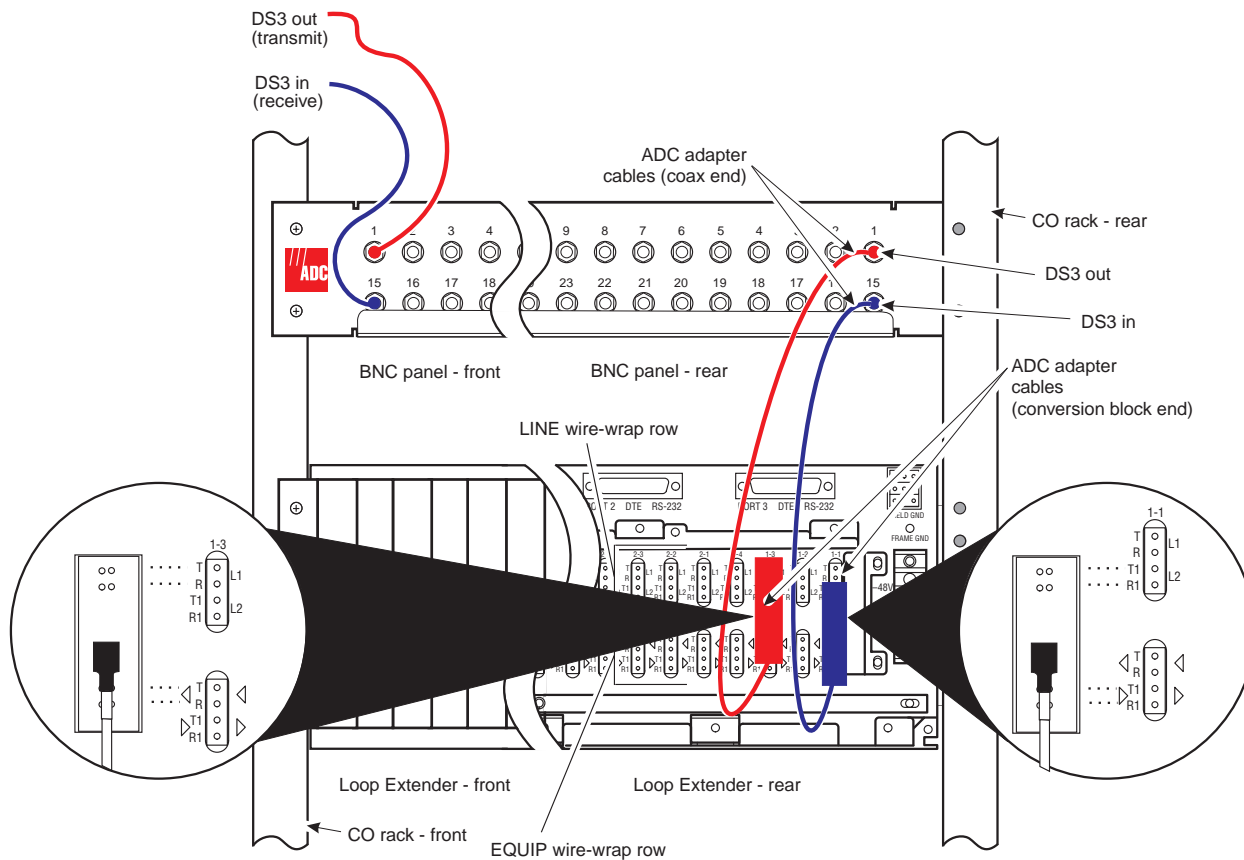

Figure 4. Mounting the BNC Panel and Connecting ADC Adapter Cables (LEC Shown)
- 3 On the front of the panel, connect the DS3 IN (transmit) and DS3 OUT (receive) coax cables as shown in Figure 4 on page 8. Note the connector numbers on the BNC panel.
- 5 Connect the wire-wrap conversion block end of the same ADC adapter cable to the T and R EQUIP wire-wrap posts on the back of the LEC as shown in Figure 4 on page 8. The top of the conversion block mates with the T and R LINE wire-wrap posts to prevent improper connection.
- 7 Connect the wire-wrap conversion block end of the same ADC adapter cable to the T and R EQUIP wire-wrap posts on the back of the LEC as shown in Figure 4 on page 8. The top of the conversion block mates with the T1 and R1 LINE wire-wrap posts to prevent improper connection.